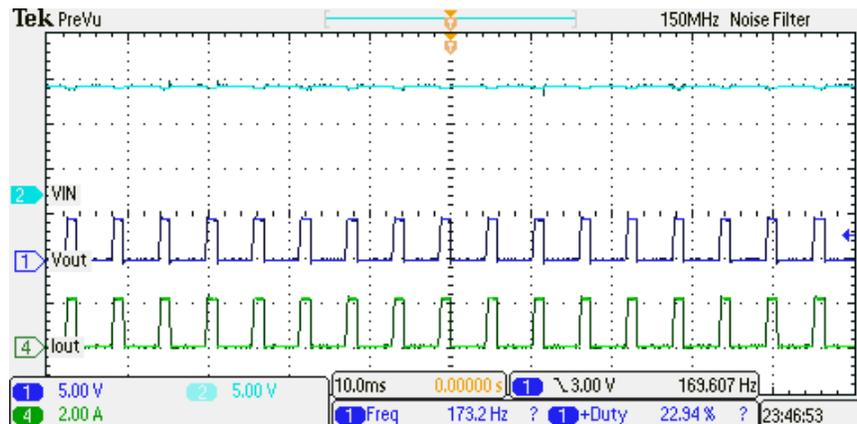

Figure 4. J3 = "ILIM-LO" Current Limit (2.1 A) Test Auto-Retry (CH2)
- Set the output load at  $1.0 \pm 0.5 \Omega$  on CH2 and then enable the load. Turn on the VIN2 power supply, verify that input/output current is limited as per the setting in Table 9 and the device is in auto-retry mode, as shown in Figure 4. The level of the current pulse should match with the load current limit (based on the respective jumper setting) as per Table 9.